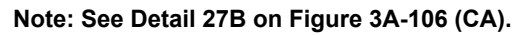

Figure 3B-106 (CA).
~~Figure 3B-107 (CA). Examples of Signing and Marking Turnouts~~
~~Figure 3B-108 (CA).~~ Electric Vehicle Charging Station Pavement Marking Detail